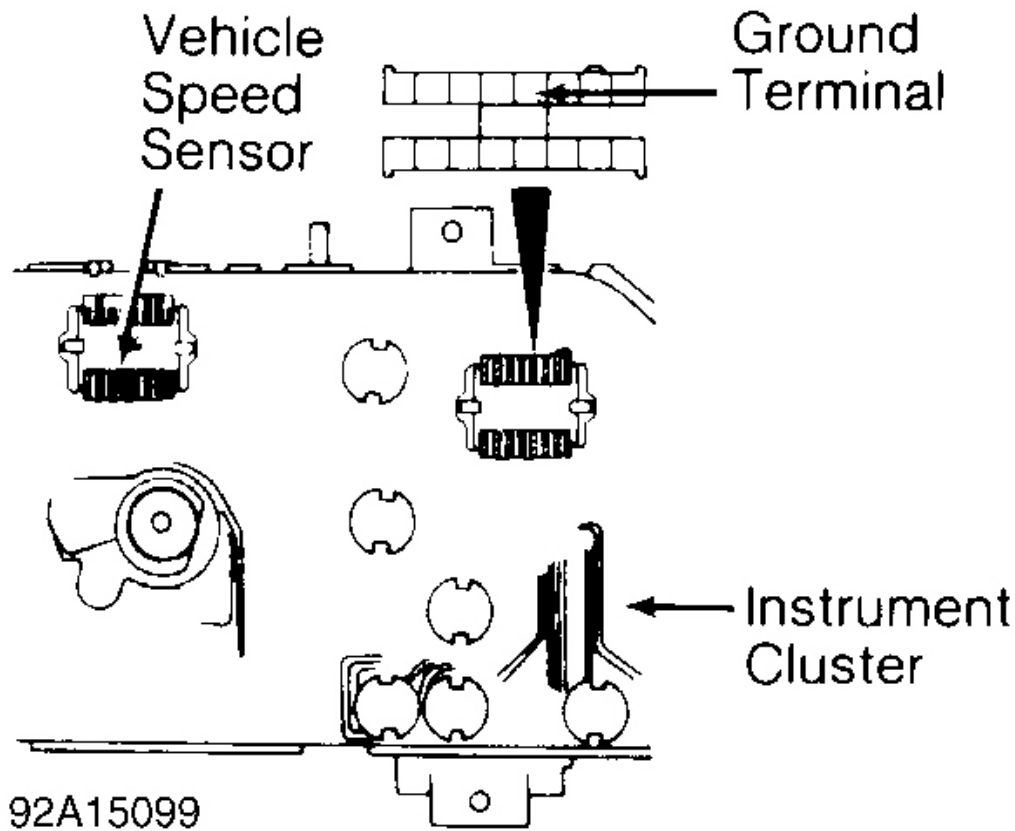

Fig. 21: Checking VSS (Colt Vista AWD, Expo AWD & Summit Wagon AWD)
1. Connect circuit tester between ground terminal and vehicle speed sensor on instrument cluster. See **Fig. 21**.